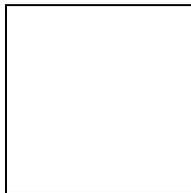

Figure 10
- Mount the headstock side comparator/guard bracket on top of the support as shown in Figure 10. Use the supplied 6mm allen head bolts.